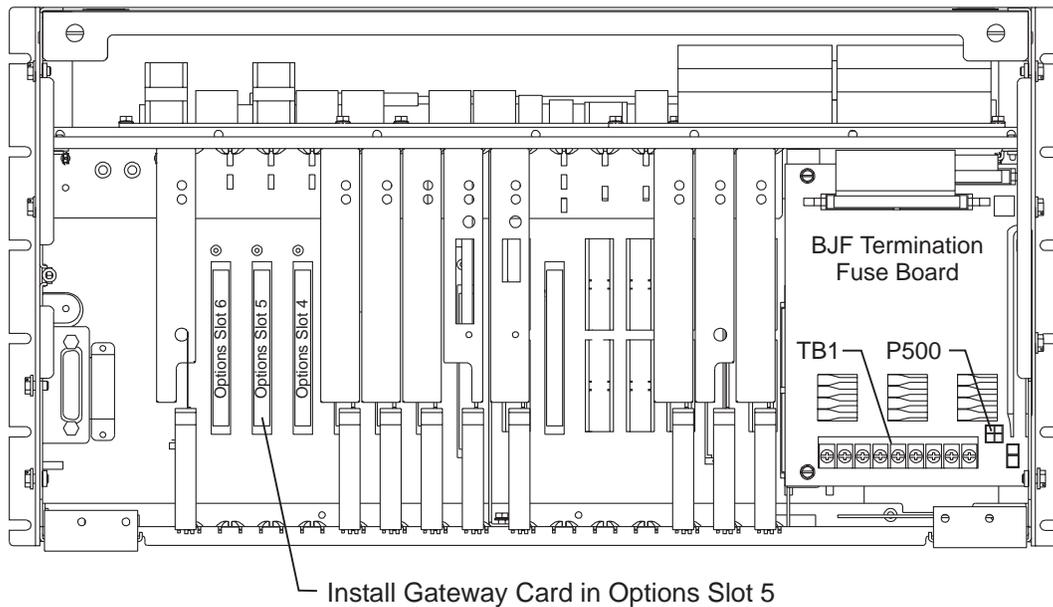

Figure 4-1: Galaxy Gateway Installation
1. Refer to Figure 4-1. Locate the area on left side of the Galaxy Controller that is designated for Intelligent Option boards. The front door is labeled OPT.2 BJ** - OPT.6 BJ**.